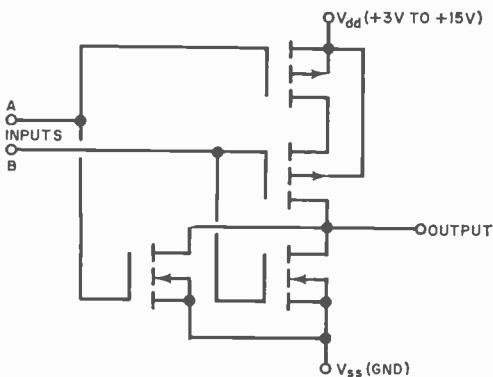

Fig. 2. Basic 4000A CMOS gate circuit.
As far as circuit goes, the CMOS is simplicity itself, as can be seen from the NOR gate schematic in Fig. 2. Note that there are no resistors—only transistors. The NOR
**A Correction.** Sharp-eyed readers may have wondered how the quad comparator circuit (Fig. 2, page 95) described in the May Solid-State Scene really worked, with the emitters of Q2 and Q3 and the base of Q7 going directly to  $V_{ce}$ . It won't! There should be a current source symbol (circle with arrow through it) between those points mentioned above and  $V_{ce}$  (see below), which will bias the circuit correctly. These current sources represent the internal bias circuitry used to provide the wide voltage range operation which is a feature of the devices. Any confusion this omission has caused is regretted.